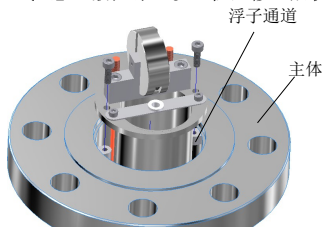
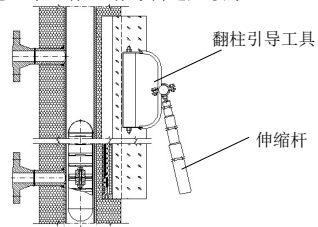

图 15 结构
图 16 低温包覆产品专用翻柱引导工具
4. 低密度型液位计采用内芯可拆卸设计，便于日常维护（图 15）。
- 用备用磁钢沿显示体视窗从上往下引一遍；低温包覆产品需采用专用工具引导，引导工具及放置方向见（图 16）；
Maintenance	<p>1. In general, no special maintenance is necessary for magnetic level gauges when operation. In the event that fluidity and cleanliness of working medium is not good, regular cleaning shall be carried out for magnetic level gauges;</p> <p>2. In the case of lengthy stoppages of the magnetic level gauges after running, be sure to clean the working medium on the surface of the magnetic level gauges;</p> <p>3. If the magnetic level gauges is shut down for a longer period of time, the float has to be separated properly from the magnetic switch, in order to prevent electric attraction of magnetism of float and cause long-term static working of magnetic switch and affect its performance.</p> <p>4. Low density level gauge designed to renewable inner parts for the convenience of maintenance. (fig.15).</p>
Troubleshooting	<p>1. If the magnetic level gauges cannot operate normally, the check shall be carried out according to the following steps:</p> <ul style="list-style-type: none"> <li>Check seals at the connect of magnetic level gauges; Low-temperature coating products shall be guided by special tools, and the guiding tools and placement are shown in (fig.16).</li> <li>Check float of magnetic level gauges for damage or spalling;</li> <li>Check connection of signal transmission of magnetic level gauges for breaking and damage;</li> </ul> <p>2. Check wearing parts of magnetic level gauges: (including: float, reed switch)</p> <ul style="list-style-type: none"> <li>If the liquid level changes at the rating point in tank while output of magnetic switch has no response, check float for damage; if the float is in a good condition, then make the simulated liquid level of float move upwards and downwards manually, at this time, observe whether the output signal has change, if no, it means the reed sensor of the magnetic switch has been damaged;</li> <li>When the liquid in container varies and move smoothly, and position with output of magnetic switch is not in the preset point, check the retainer on switch sensor for loosens or falls off, if has, make it reset and then the magnetic switch operate again.</li> </ul> <p>3. If the transmitter cannot operate normally, the check shall be carried out according to the following steps:</p> <ul style="list-style-type: none"> <li>Check float for damage or spalling;</li> <li>Check connection of signal transmission of transmitter for breaking and damage;</li> <li>Check wearing parts of transmitter for damage (including: float, reed resistance induction circuit, transmitter module).</li> <li>If the tank contains liquid while the output signal of the transmitter is the initial value all the time, check the float for damage; if the float is in good condition, move the float manually for simulation of the level upwards and downwards, and observe the output, if the output has no change, then check whether output resistance value changes in the leads of sensor of the transmitter, if it has change, then it means the transmitter has been damaged or the connection between the sensor and transmitter is incorrect; if not, then it means the sensor has been damaged or wiring inside the sensor is incorrect;</li> </ul> <p>Note: if the magnetic level gauges cannot operate normally after above-mentioned inspection and repairing, please contact manufacturer.</p> <div style="display: flex; justify-content: space-around; align-items: flex-end;"> <div style="text-align: center;">  <p>Fig. 15 Structure</p> </div> <div style="text-align: center;">  <p>Fig. 16 Cryogenic bag to cover the products for the guide tool</p> </div> </div>